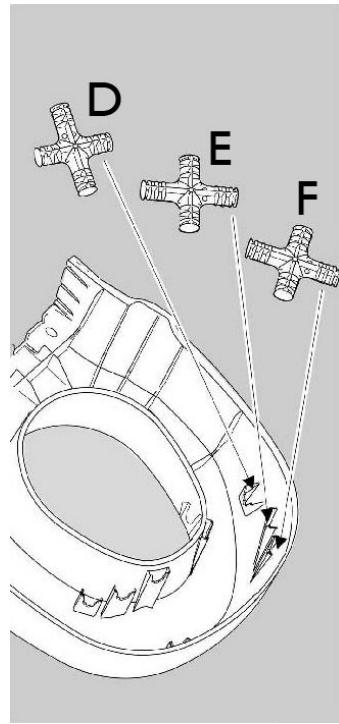

Fig. 6
4. Place both attachment crosses in the desired fixation. (Fig. 6)